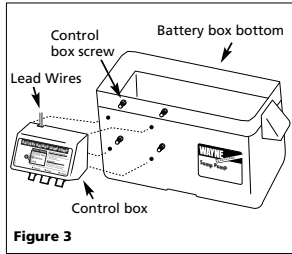

Figure 3
- Attach control box to the side of battery box as shown in Figure 3. Place battery in box, attach red cable to positive battery post and black cable to negative post. Put lid on box.